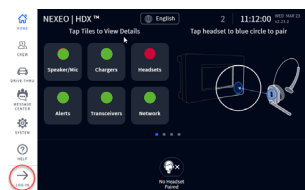

Fig. 4.1
1. On the NEXEO|HDX base station HOME screen (see Fig. 4.1), log in to the base station using the four-digit **Installer’s PIN**.